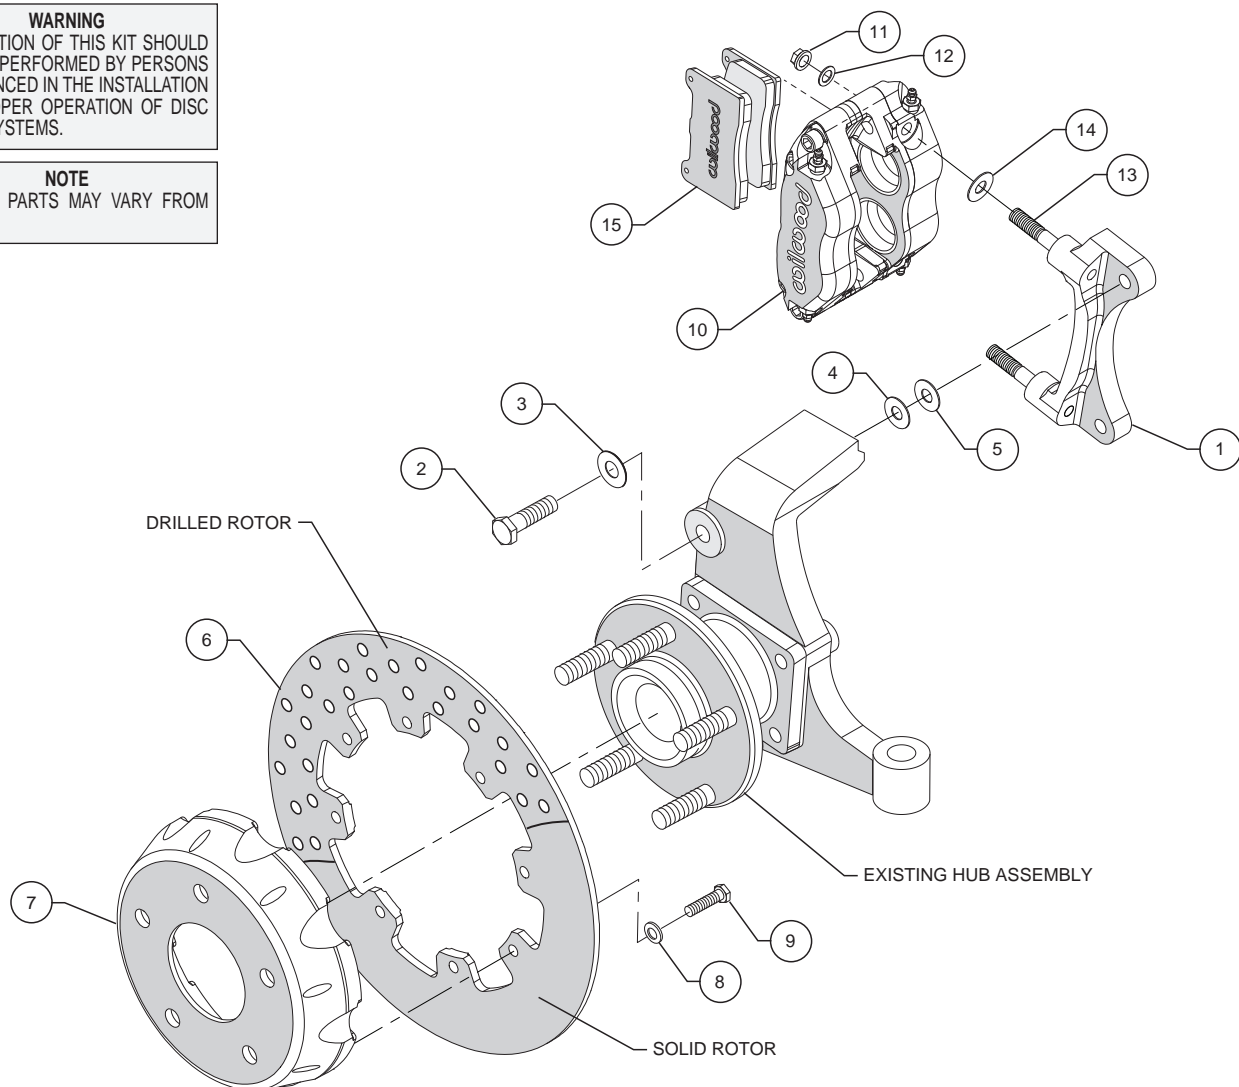
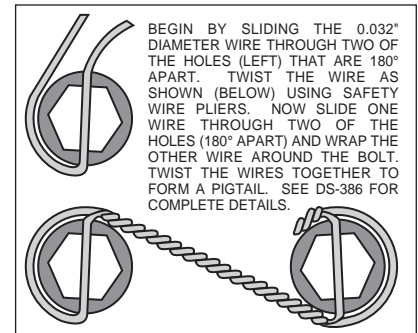

Figure 1. Typical Installation Configuration
Figure 3. Safety Wire Diagram
- The caliper mount bracket assembly (1) should be installed first with clean, dry threads on the mounting bolts. Install the bracket on the inboard side of the spindle by sliding bolt (2) through flat washer (3), and spindle ear from the outboard side of the spindle. Place two shim washers (4) between the bracket (1) and the spindle (see figure 1). The bracket must tighten squarely against the inboard side of the caliper mount bosses on the spindle body. Inspect for interference from casting irregularities, machining ridges, burrs, etc. Later, after the caliper, pad, and rotor alignment has been checked, and any necessary shims have been put in place, the mount bolts should be coated with red *Loctite*® 271 and torqued to 65 ft-lbs.
- With the notched side of the rotor (6) facing away from the hat (7), bolt the rotor (6) to the hat (7) through the backside of the rotor using washers (8) and bolts (9) provided in the configuration pictured in figure 1. Using an alternating sequence, apply red *Loctite*® 271 to the threads and torque bolts to 25 ft-lb. For an added measure of security, the bolts may be safety wired using standard 0.032 inch diameter stainless steel safety wire as shown in Figure 3. Please refer to Wilwood's data sheet DS-386 (available at www.wilwood.com/Pdf/DataSheets/ds386.pdf) for complete safety wire installation instructions..